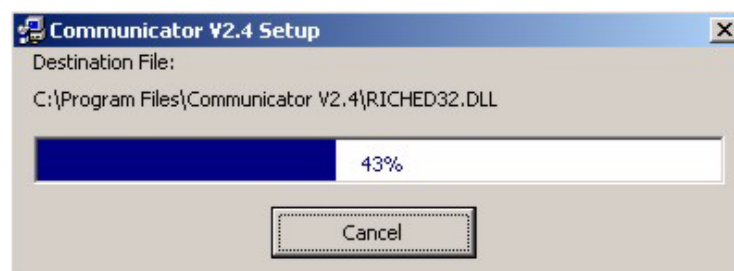

Figure 69 - Communicator Software Installation - Progress
- 2.12 The installation process will start, and the progress will be indicated by a moving bar (refer to Figure 69).